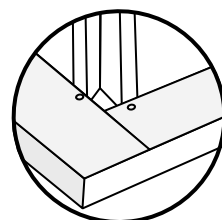

fig.5
- Ensure that the top and bottom ends of the braces are under the door flashings as shown in fig.5 and opposite ends of the braces overlap in the middle as shown in fig.6.